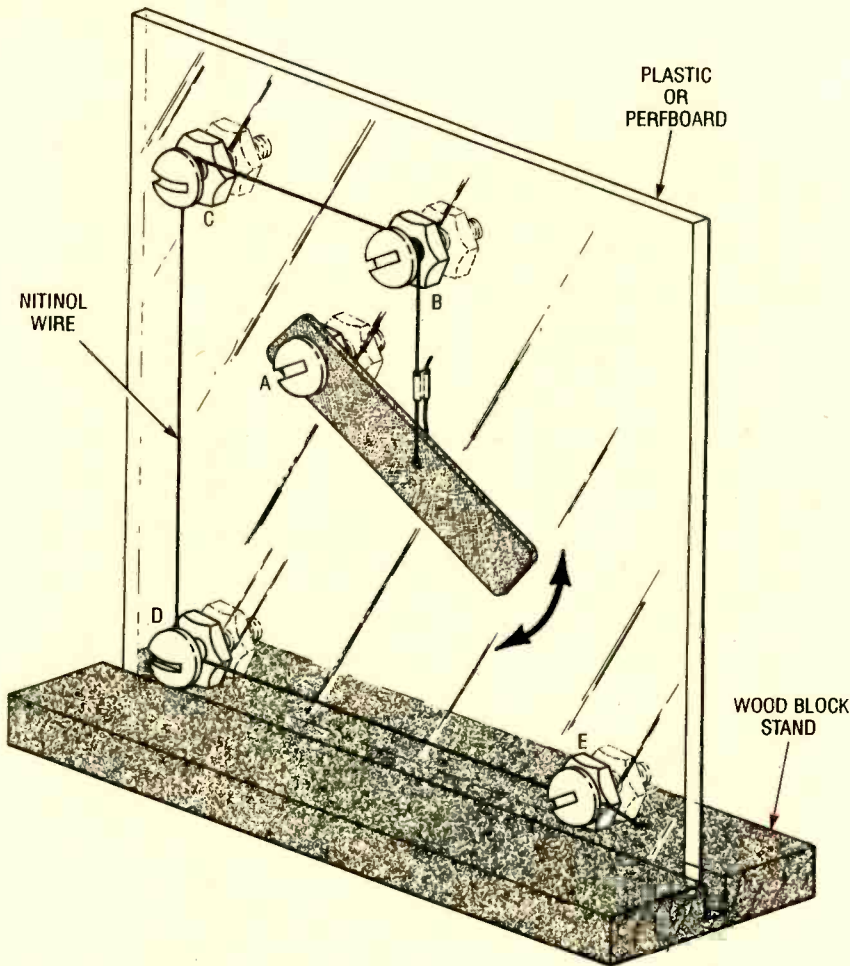

Fig 5. Another simple demonstration, this time showing how the Nitinol wire can be used to move a lever.
*Fig. 5. Using the pieces of aluminum left over from the holes in the base, make a platform (which consists of two pieces) for the soda can. A rectangular aluminum piece, which rests against cooling module, lifts the top circular platform piece into the chamber where it can contact the beverage can.*
Using the pieces of aluminum that you saved when making the holes in the top and bottom of the base, make a piece that will serve as a platform for beverage cans. The platform, which consists of two pieces, is shown in Fig 5. The rectangular piece, which rests against cooling module, lifts the top circular piece into the chamber where it can contact the beverage can. The rectangular piece also leaves room for some foam insulation between the cool top plate and the hot bottom plate. I used the bottom from a foam drink keeper for the insulation.
I also built a second Nitinol demonstrator, shown in Fig. 5. That unit shows how you can amplify the mechanical motion of the wire using a lever. The lever pivots on screw A. The Nitinol wire is attached to the lever and screw E. The wire is threaded around screws B, C and D. When activated, the lever rises.